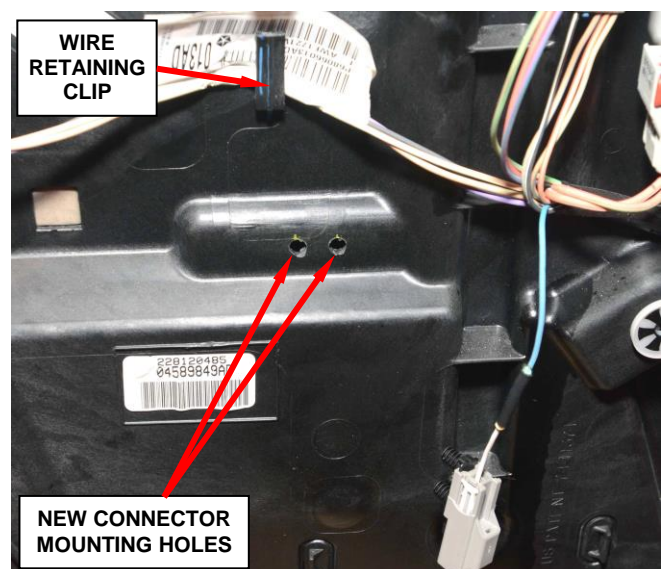

Figure 10 – Drill Connector Mounting Holes
20. Using a ¼ in. (6.35 mm) drill bit and drill, drill two holes in the door module (Figure 10).